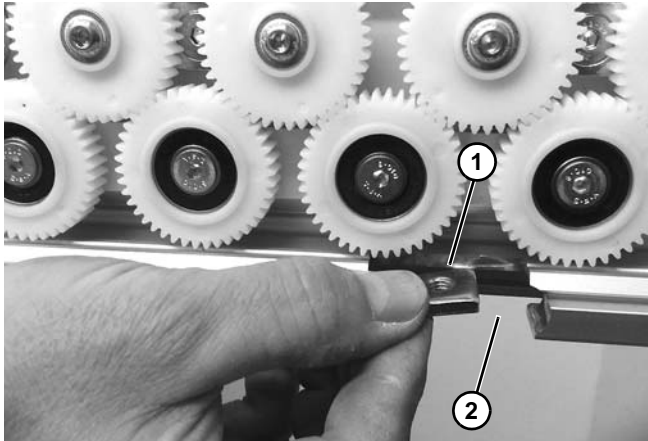

Figure 12
6. Install two sprint nuts (**Figure 12, item 1**) into bottom slotted area (**Figure 12, item 2**) of the conveyor frame.